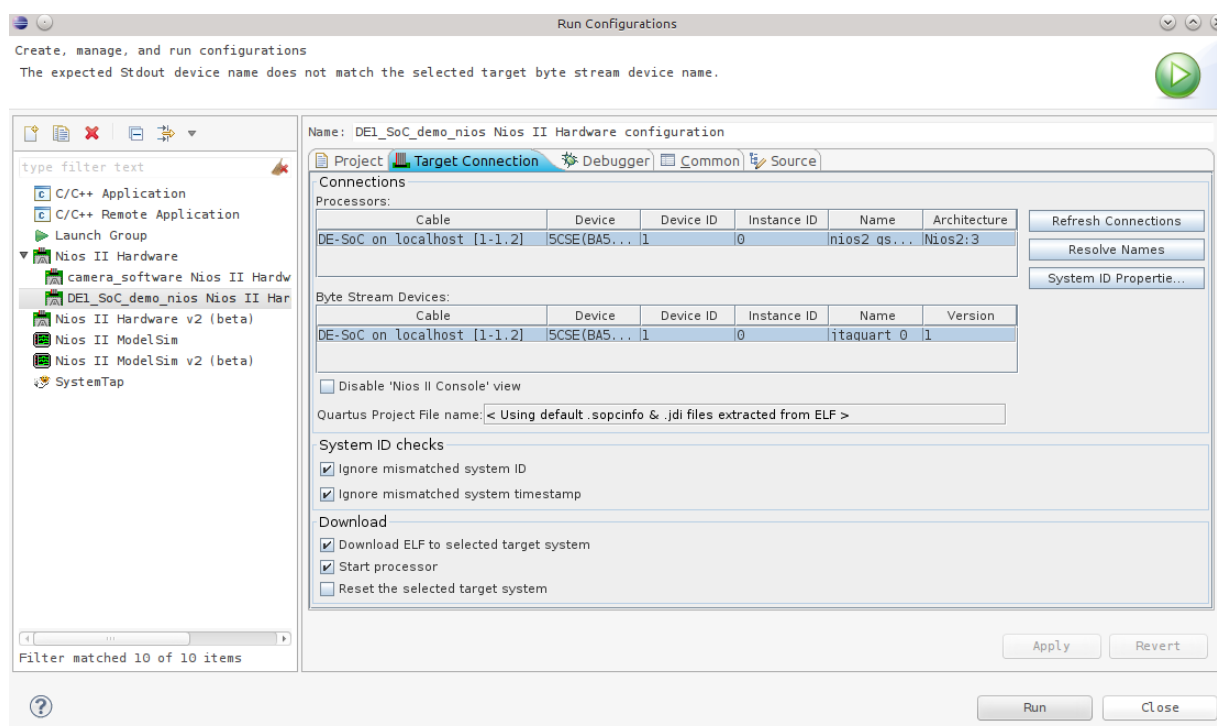

Figure 8-22. Nios II Target Connection Dialog
8. In some cases, it is possible that the program will not immediately run on the Nios II processor, and you will be prompted with a “Target Connection” dialog, as shown in Figure 8-22. If your Nios II CPU doesn’t appear in the list of available processors, then
- a. Click on the “Refresh Connections” button on the right of Figure 8-22.